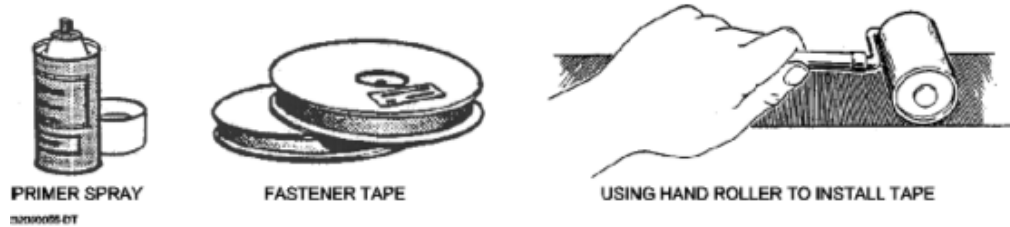

Figure 2-5. Fastener Tape Preparation
- c. Spray a heavy coat of tape primer on the cleaned areas along the strip where the fastener tape will be applied. Allow primer to dry thoroughly before applying the fastener tape. (Follow the directions on the primer can.) (See Figure 2-5.)